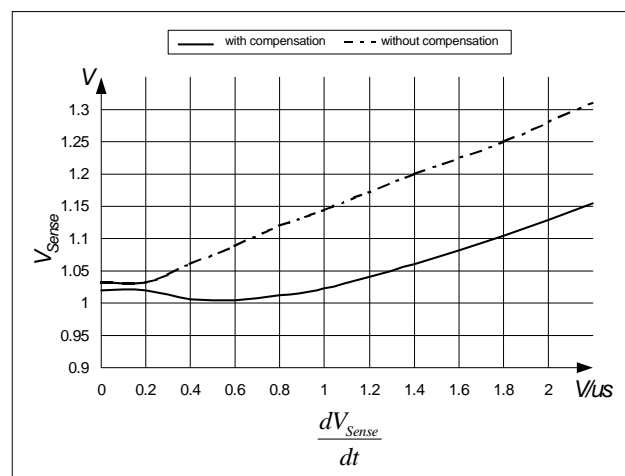

Figure 19 Overcurrent Shutdown
E.g. $I_{peak} = 0.5\text{A}$ with $R_{Sense} = 2$. Without propagation delay compensation the current sense threshold is set to a static voltage level $V_{csth} = 1\text{V}$. A current ramp of $di/dt = 0.4\text{A}/\mu\text{s}$, that means $dV_{Sense}/dt = 0.8\text{V}/\mu\text{s}$, and a propagation delay time of i.e. $t_{Propagation Delay} = 180\text{ns}$ leads then to a I_{peak} overshoot of 14.4%. By means of propagation delay compensation the overshoot is only about 2% (see Figure 19).